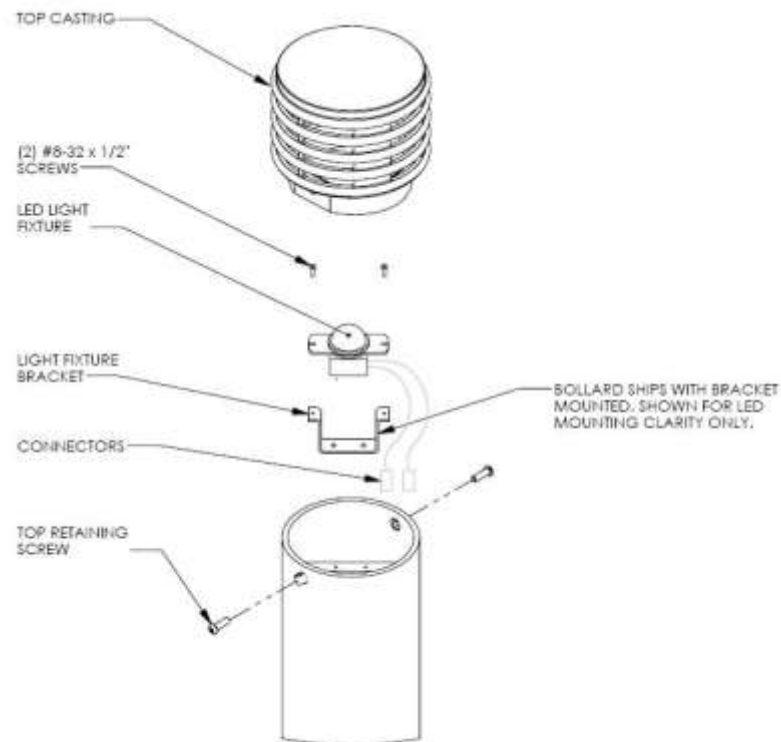

Figure 3.
1. Remove two top retaining screws and top casting (see Figure 3).